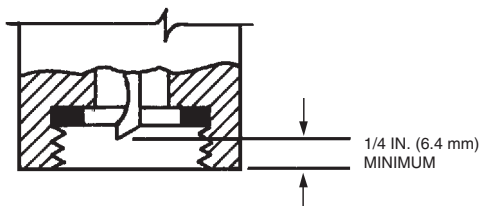

FIGURE 14
- a When removing actuator from the carton, check pin to make certain it is in the upright position. See Figure 14.